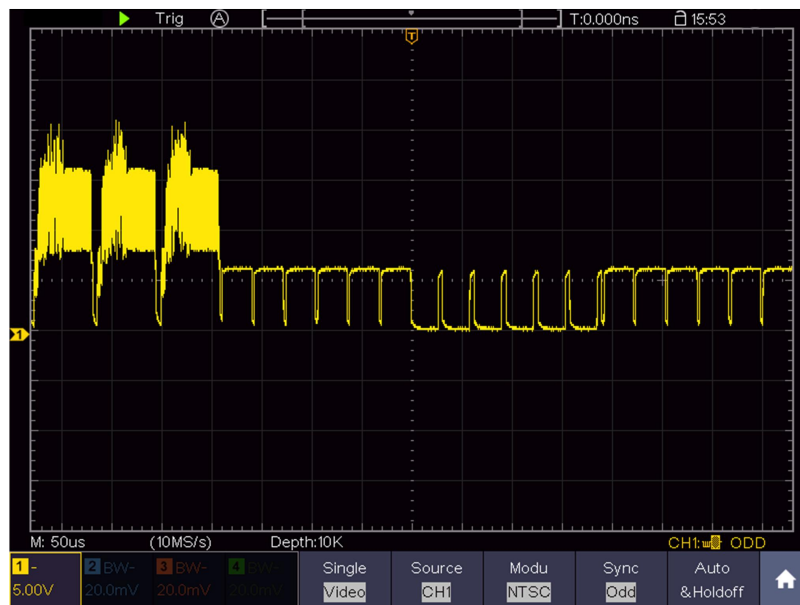

Figure 9- 7 Waveform Captured from Video Field Trigger
- (1) Push the **Trigger Menu** button to display the trigger menu.
- (2) Select the first menu item in the bottom menu. Select **Single** in the right menu.
- (3) In the left menu, select **Video** as the mode.
- (4) Select **Source** in the bottom menu. Select **CH1** in the right menu.
- (5) Select **Modu** in the bottom menu. Select **NTSC** in the right menu.
- (6) Select **Sync** in the bottom menu. Select **Field** in the right menu.
- (7) Turn the **Vertical Scale**, **Vertical Position** and **Horizontal Scale** knobs to obtain a proper waveform display (see *Figure 9- 7*).